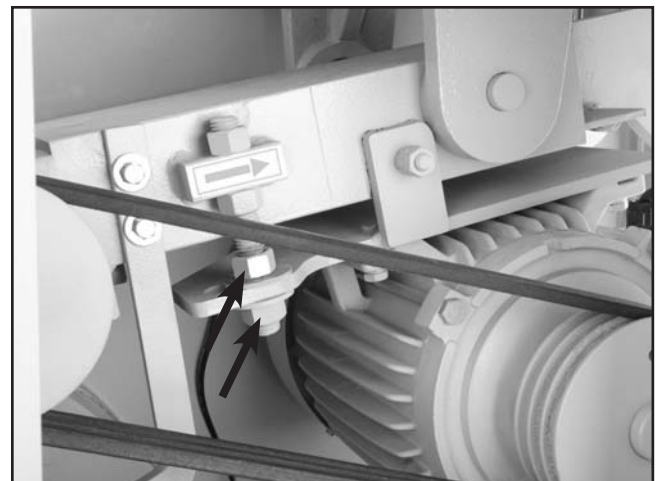

Figure 48. Motor mount nuts (1 of 2 shown).
3. Loosen the motor mount nuts shown in **Figure 48**.